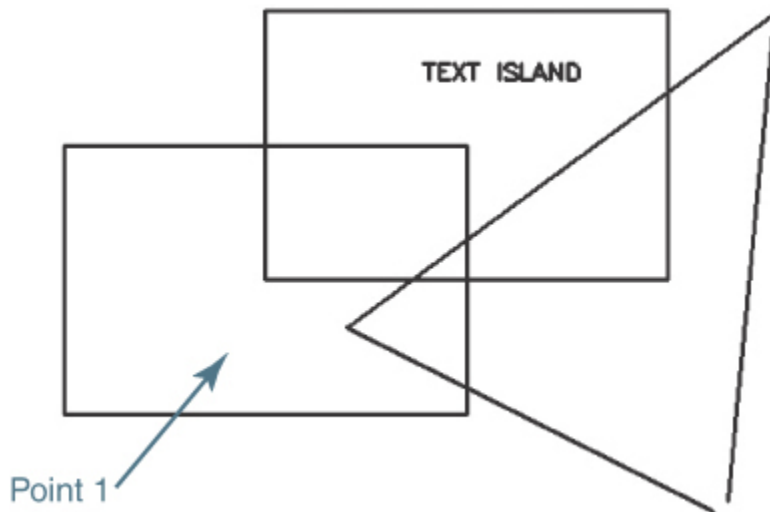

Figure 10-4
- 3 Place your cursor near where point 1 is shown in Figure 10-4 but do not pick a point yet. Notice the hatch preview.
- 4 Pick a point at the location indicated in Figure 10-4, and press **<Enter>** to accept the hatch pattern.